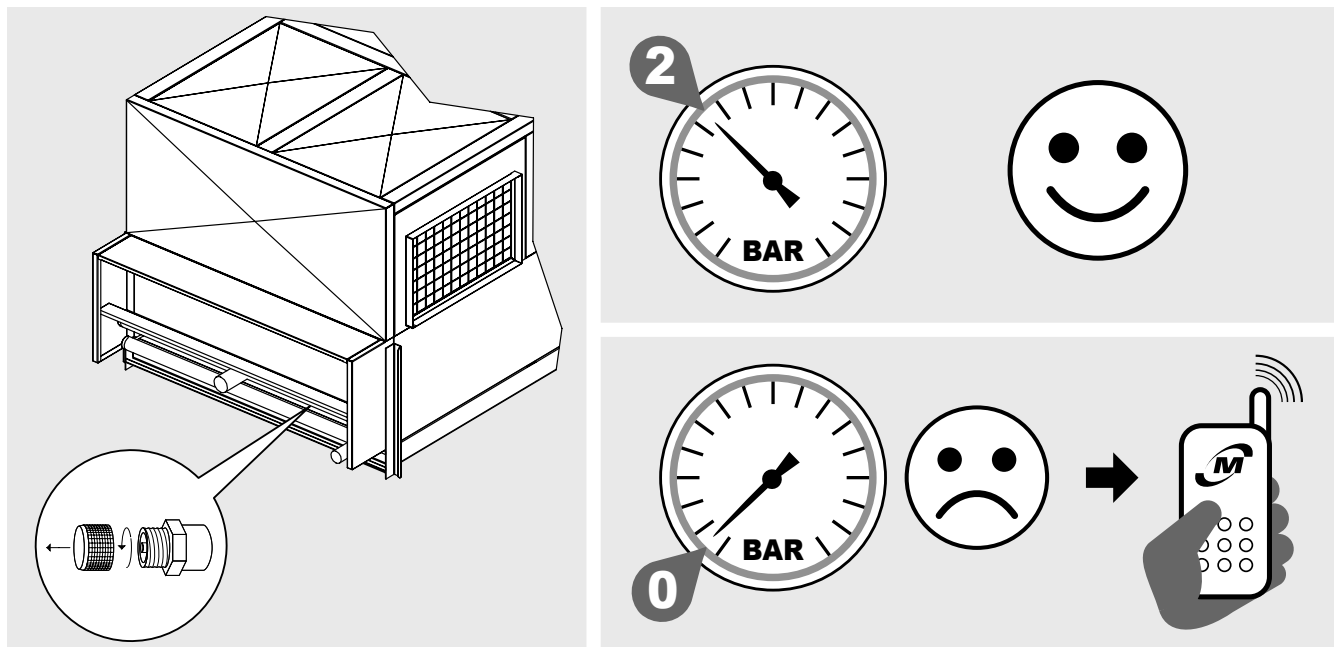

Figure 2
- 4.2 The condenser (H(C)FC) and gas cooler (CO₂) heat exchangers are supplied pre-charged with dry air at 2 bar and are fitted with UNF 7/16"-20 charging ports. Check for pressure. If lacking, immediately contact Modine and report the problem on the transport document. Insufficient pressure indicates a loss due to damage incurred during transportation. See Figure 2.